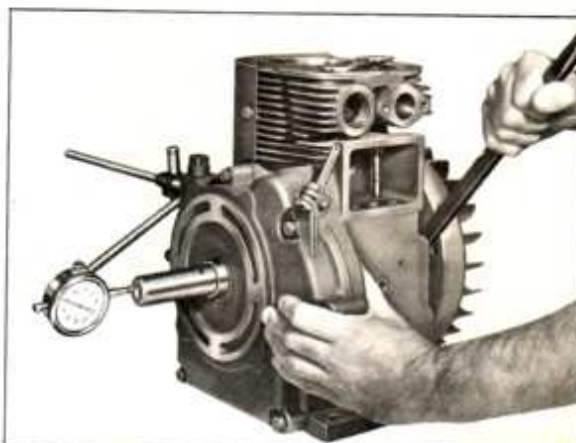

Fig. 43
*End play* is checked after crankshaft, gear cover and flywheel are mounted. The end play should be .001 to .004 inch with engine *cold*, and can be determined as illustrated in Fig. 43; Wedge a lever between the flywheel and crankcase, and move the crankshaft forward and backward against a dial indicator. If there is too much end play, a corresponding thickness of gasket or shim will have to be removed from behind stator plate. Not enough end play and gasket or shim will have to be added.